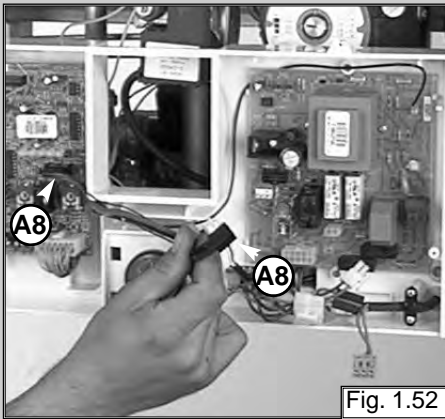

Fig. 1.52
6. Disconnect the connection cable "A8" (see fig. 1.52);